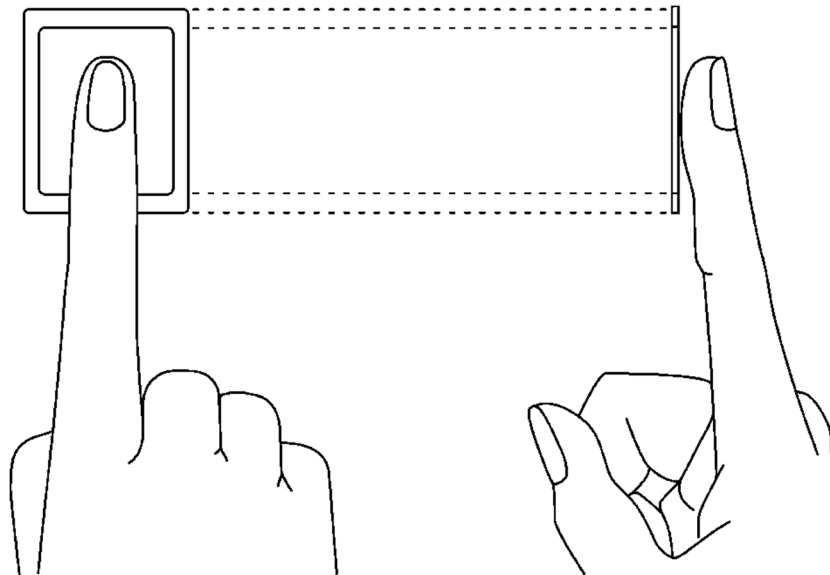

Fig. 5 Proper placing of finger on optical scanner
- Proper finger placing for the purpose of fingerprint reading is shown in fig. 5. In case of kids (small fingerprints) it is recommended to verify fingerprint reading prior to installation of FPAC-MAX FINGERPRINT.